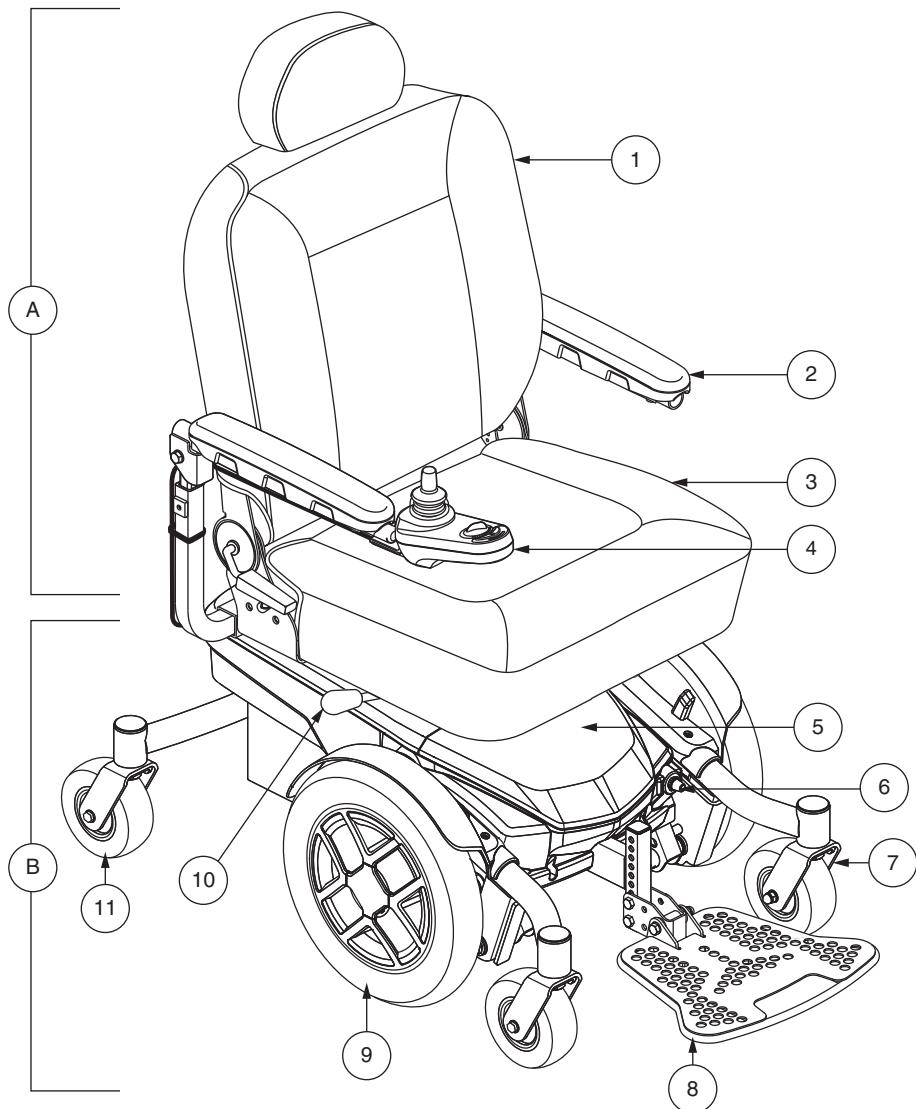

Figure 1. The Jazzy EVO 613 Power Chair
The Jazzy EVO 613 Power Chair has two main assemblies: the seat assembly (A) and the power base assembly (B). See figure 1. Typically, the seat assembly includes the armrests, seatback, and seat base. The power base assembly includes two motor/brake assemblies, two drive wheels, two batteries, and wiring harnesses. See figures 1, and 2.
If your power chair is equipped with a manual recline seatback, you can adjust the seatback angle with the seatback release lever. The lever is located on the right side of the seat base. See **figure 1**.